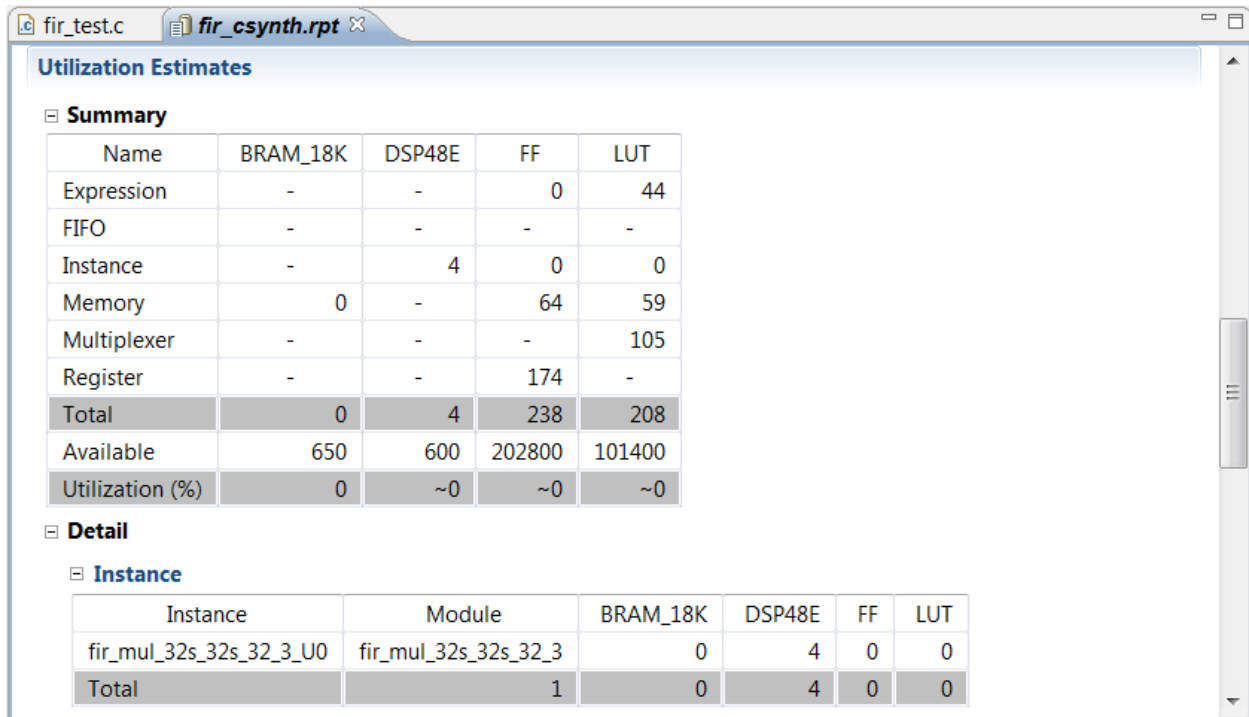

Figure 13: Utilization Estimates
4. In the Outline tab, click **Utilization Estimate** (Figure 13).